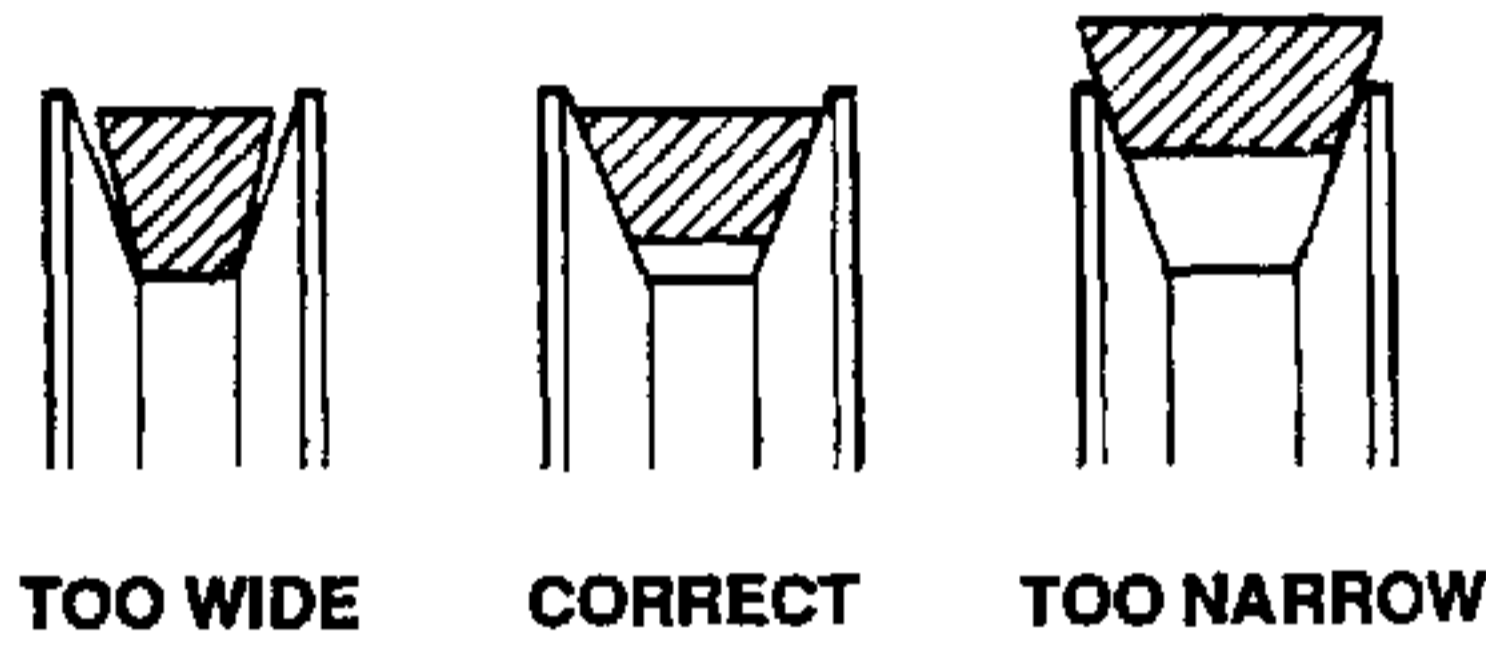

Figure I-1. Belt Positions on Pulley Sheaves.
2. Belts which are frayed or worn on the inside surfaces indicate defective or damaged pulley(s). A V-belt should not bottom out on the pulley sheave. If the belt bottoms out, the pulley is too wide or the sheave has spread apart. Refer to Figure I-1.